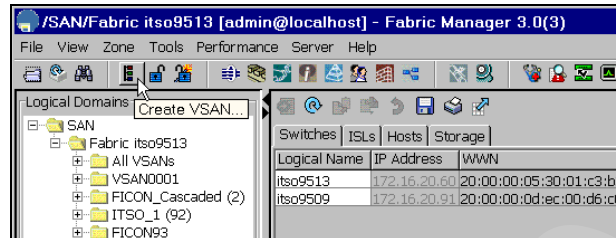

Figure 19 VSAN Create Wizard
2. Select the **Create** VSAN Wizard icon as shown in Figure 19.